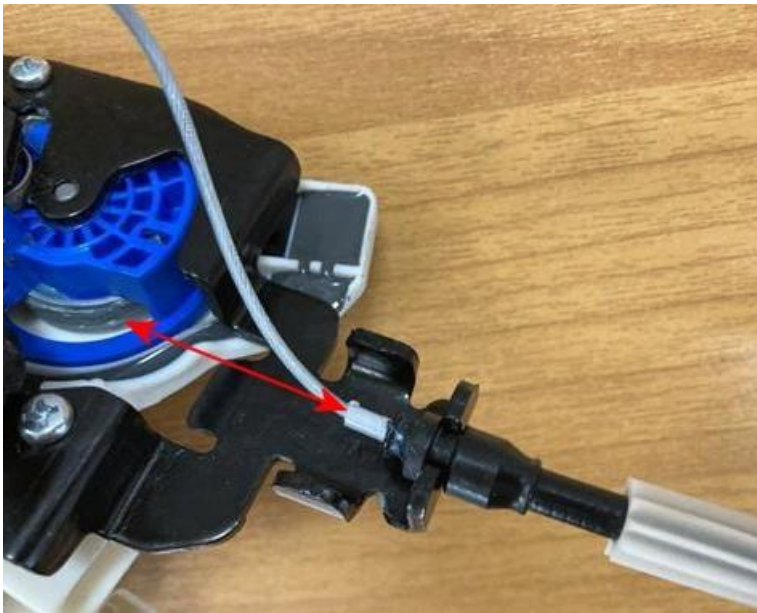

Figure 4
4) Referring to Figure 4 - Distribute the grease by pulling the cable towards the latch and back towards the motor